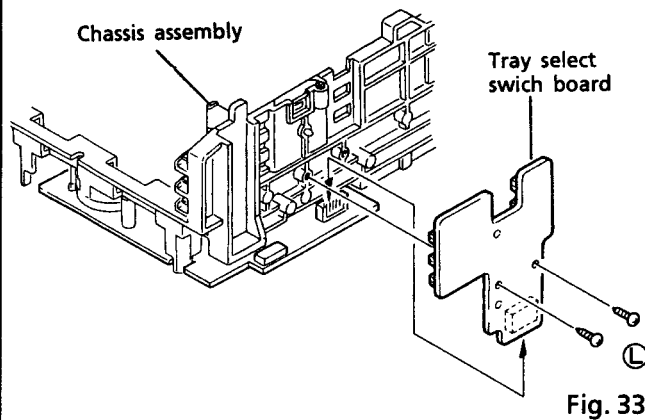

Fig. 33
5. Remove 2 screws ⑨ securing the tray select switch board. (See Fig. 33.)